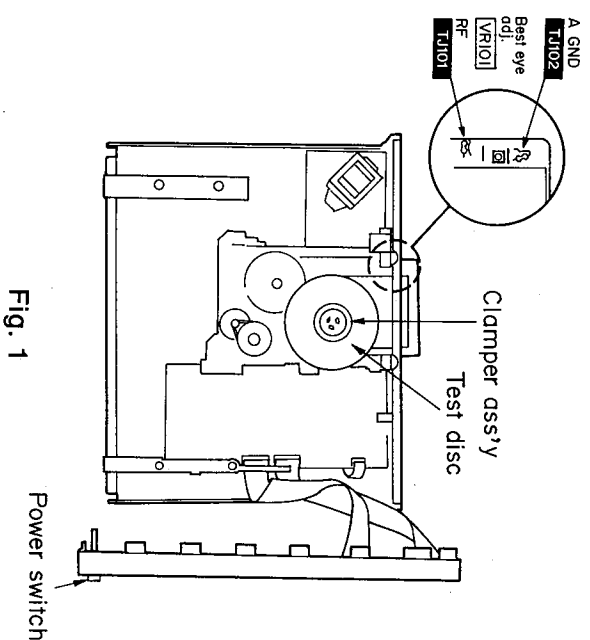

Fig. 1
6. Place the test disc and secure it by using clammer ass'y. (Refer to Fig. 1)